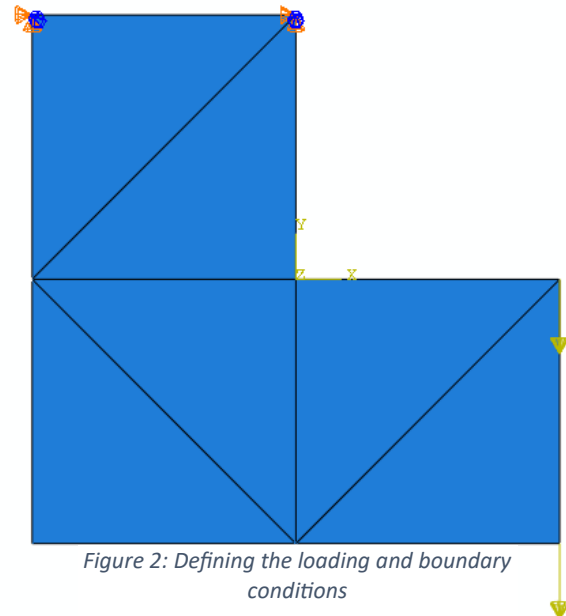

Figure 2: Defining the loading and boundary conditions
4. Apply loading condition at nodes (fig. 2)
5. Define boundary conditions at the node for fixed joint (fig. 2)